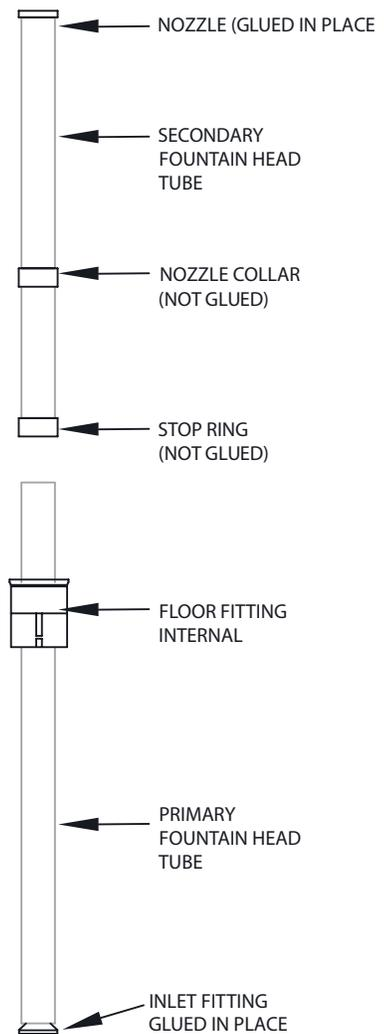

Figure 5
2. Remove the Nozzle Collar from the Primary Fountainhead Tube (see Figure 5) and lift the Secondary Tube out of the Primary Tube then remove the Stop Ring.